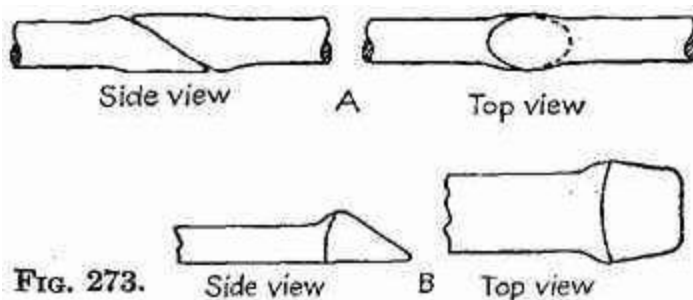

Fig. 273.-A. Round rods upset, scarfed, and in position for welding. B. Flat bar upset and scarfed for welding.
**315. Welding Rods or Bars.**-To weld rods or bars, it is best to upset the ends somewhat before scarfing. The scarfs should be short and thick and with rounded convex surfaces (see Fig. 273). The irons are fluxed and brought up to the welding heat in the usual manner. When they reach the welding heat, they are removed from the fire, struck quickly over the edge of the anvil to shake off any slag or impurities, put in place on the anvil and hammered together first on one side and then the other with light or medium blows, followed by heavier ones. After the first blow or two to stick the irons, the ends of the scarfs should be welded down next because they are thin and lose their welding temperature rapidly.